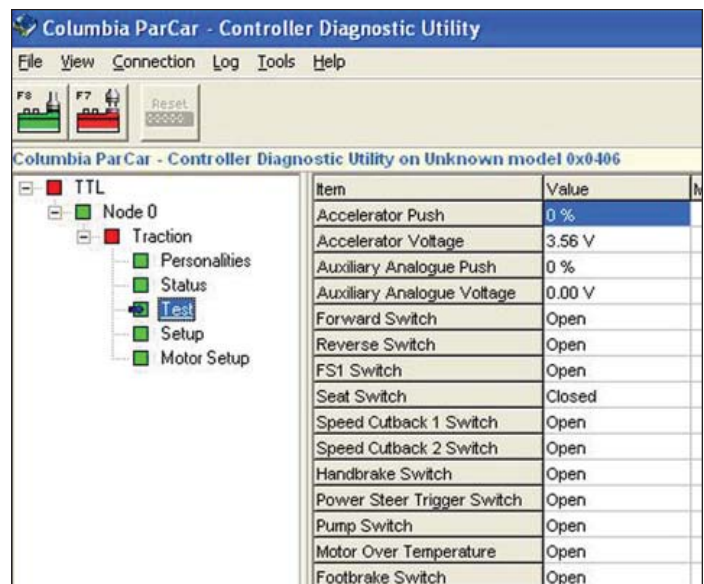

Figure 4-2. Basic Test Inputs
1. Open the connection between the controller and the PCPak utility. On the left side of the screen, select the “test” section under the “traction” pull down. This screen will display the inputs the controller is observing at that time (Figure 4-2).